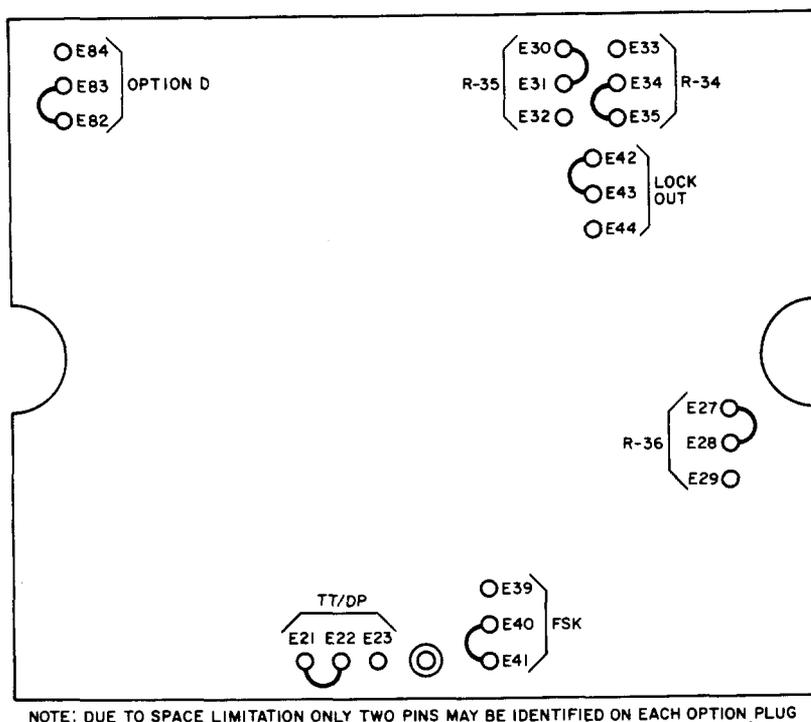

Fig. 4—Main PWB, Option Plug Locations Showing Plug Positions as Shipped
3.06 It is recommended that at this time the set should be opened (3.07) and all option plugs on main printed wiring board (PWB) checked to insure that they are in their "when shipped" positions as shown by Tables C and D or Fig. 4. Check wiring terminations and if any loose connections are found, reterminate per Fig. 9.
- (1) Place the option plugs in their proper positions for the measured loss. As shown in Table C and Fig. 4.
Note: See Fig. 4 for location of option plugs on main PWB.
Note: See Fig. 4 for location of option plugs.